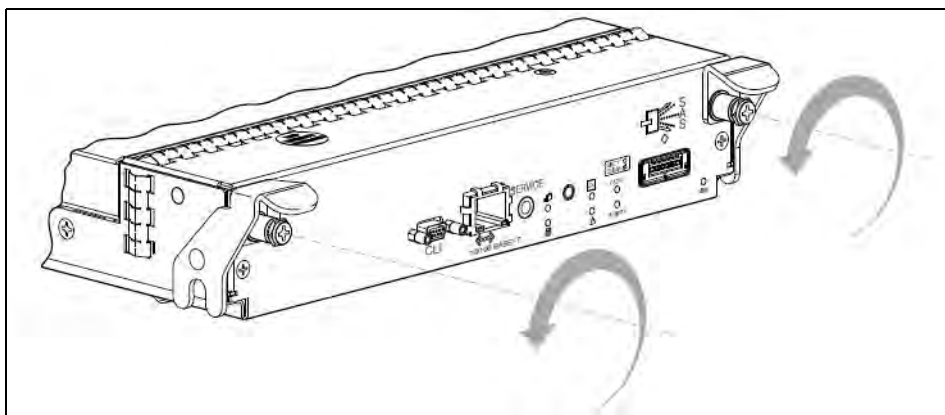

Figure C.46 - Disengaging a Controller Module
3. Turn the thumbscrews counterclockwise until they disengage from the module (**Figure C.46**).